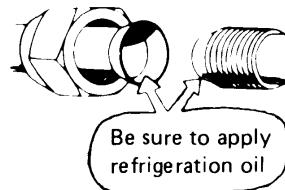

Fig. 25
- b) Be sure to apply refrigeration oil to the matching surfaces of flare and union before connecting them together. This is effective for reducing gas leaks. Fig. 25